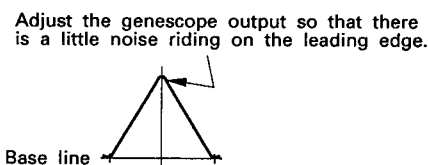

Fig. 11
4. Feed in a weak signal to TP.2 from the genescope. Adjust T201 for maximum gain and the waveform indicated in Fig. 11. If the center of the waveform cannot be lined up on the marker, adjust the right/left balance.